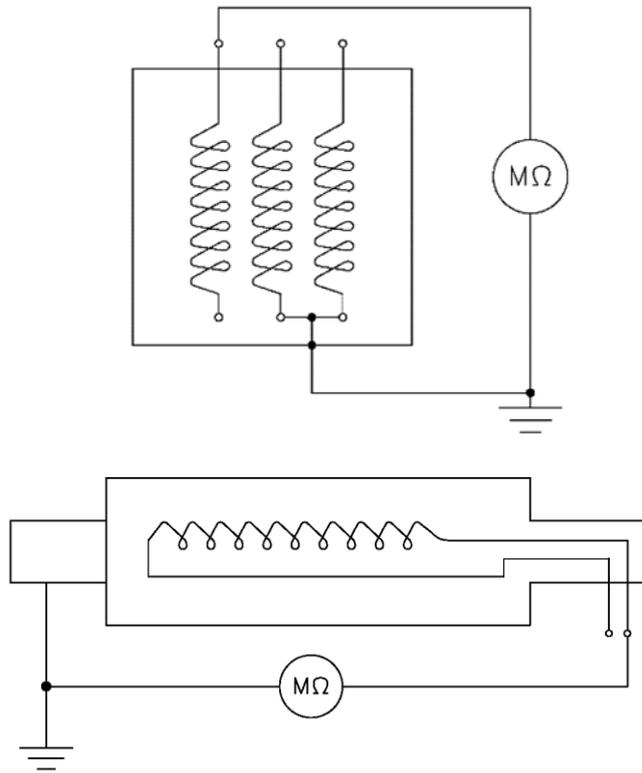

Figure 5-1
- **Main stator:** the insulation resistance is measured by disconnecting the connections from the regulators (voltage regulators or other devices) or from any other devices on the unit. The measurement will be performed between a phase and ground mass with the remaining two also ground connected along with the auxiliaries (the operation must be repeated for all three phases). See Figure 5-1 Measuring the insulation resistance on the stator winding.